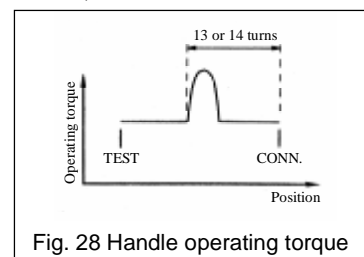

Fig. 28 Handle operating torque
- ⓘ When the main contact starts engaging, the force required to turn the handle will increase as shown in Fig. 28. This symptom does not mean a malfunction. Continue to turn the handle. Rotating the handle more 13 or 14 turns moves the breaker body to the CONN. position, where the handle cannot be turned with its max. operating torque.